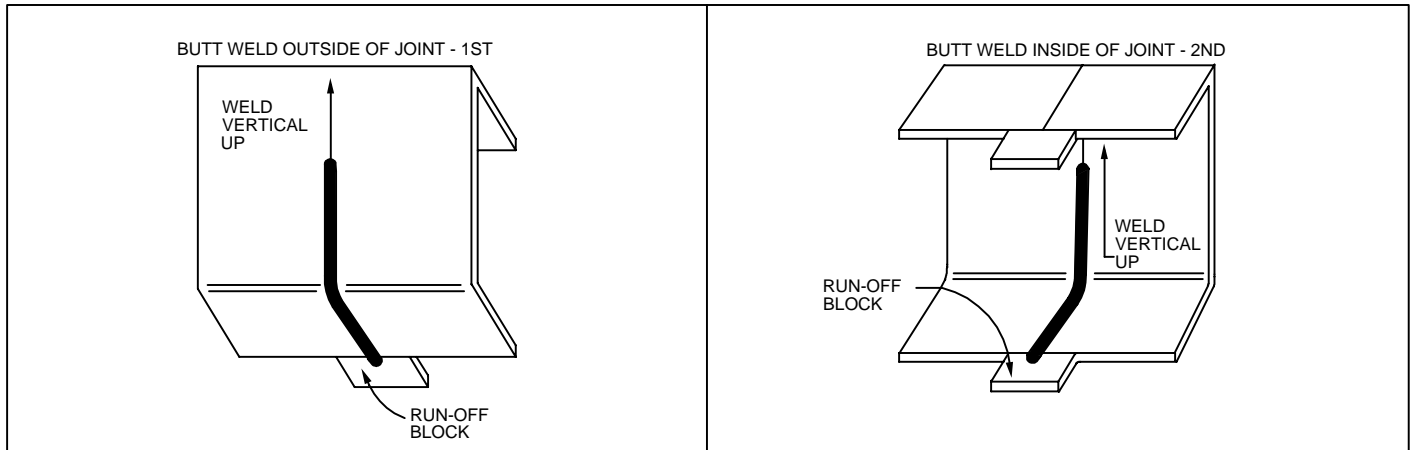

FIGURE 7
- Tack weld run-on blocks to the edge of the upper and lower flanges of the frame and frame insert (Figures 7 and 8). This procedure is recommended to eliminate joint edge burnout and to prevent movement during the butt weld procedure.
- Butt weld the ends of the frame insert to the frame. Grind the visible welds on both sides to the parent metal. Butt welds on the outside surface of the frame should be done with a single pass, vertical, up (Figure 7).